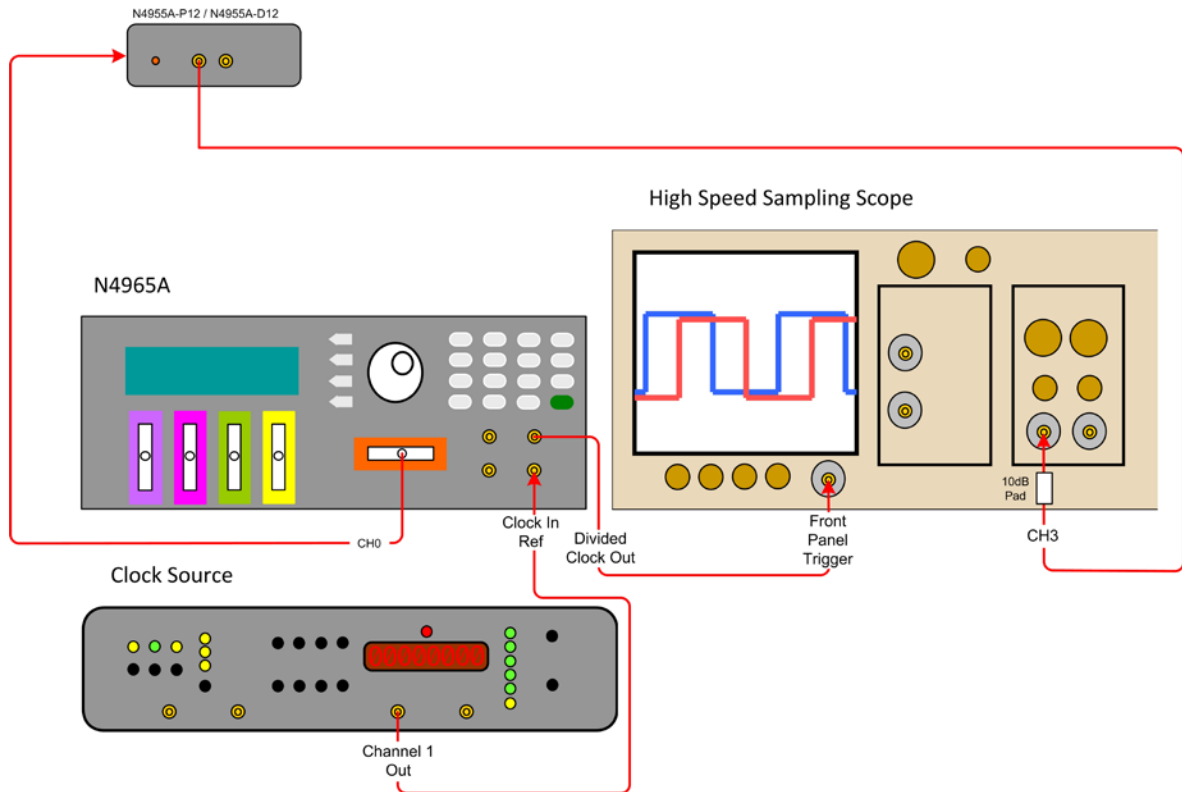

Figure 4. N4955A-P12 / N4955A-D12 installation setup
1. Connect the N4965A controller to a clock source and high speed sampling scope as shown in Figure 4.